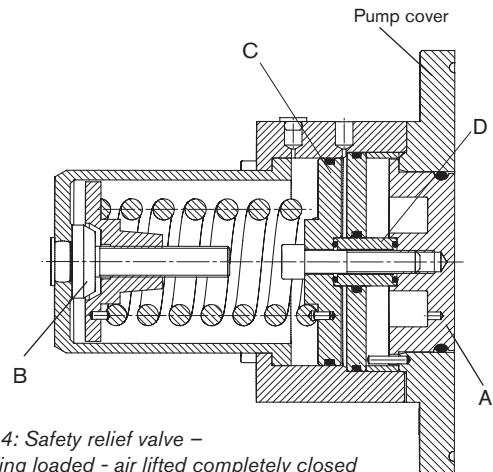

Fig 4: Safety relief valve –
Fig. 4 and 5 are showing the design of the spring loaded - air lifted safety relief valve. The valve head (A) is subjected to the fluid pressure in the rotor case on one side and by spring force on the other side. The spring is not acting directly on the valve head (A) but via piston (C) and spacer sleeve (D).
Fig. 4 shows the safety relief valve completely closed. The valve head (A) is in line with the front face of the pump cover and the CIP/SIP valve cylinder is completely relieved.